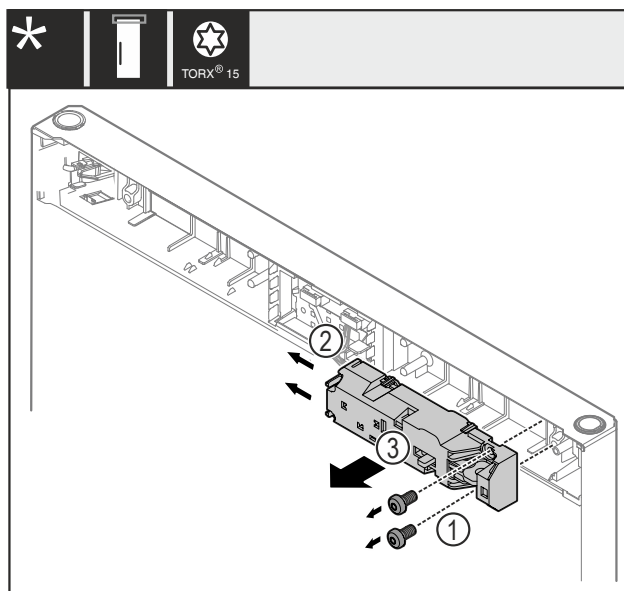

Fig. 19
- Remove the screws Fig. 19 (1).
- Push the latching tabs Fig. 19 (2) to the side and remove the remote lock Fig. 19 (3).